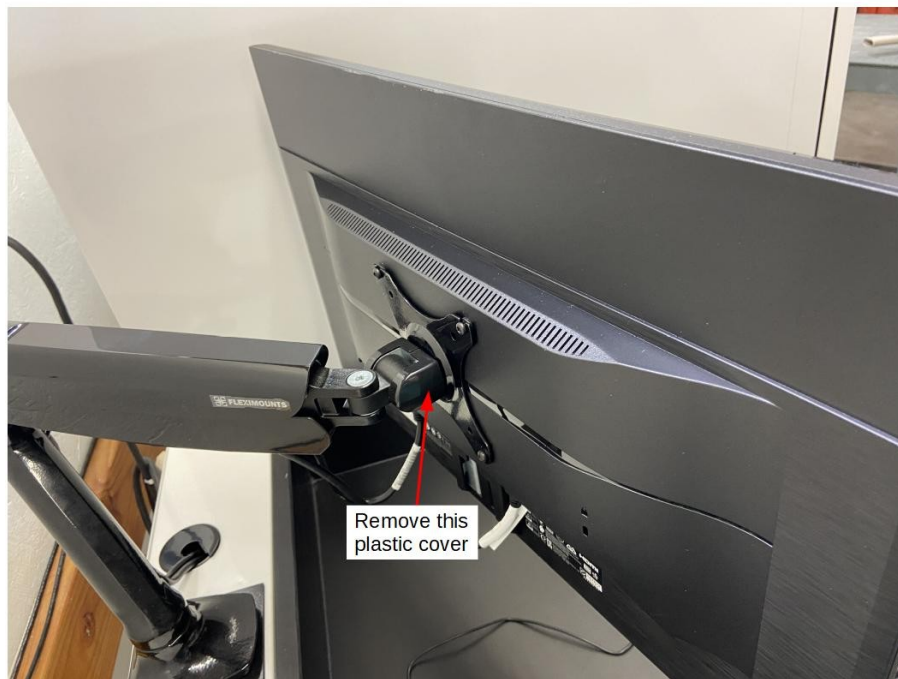

Figure 1: Cover Location
- Using a 4mm Flat Head Screwdriver, remove the plastic cover closest to the monitor, as shown in Figure 1.